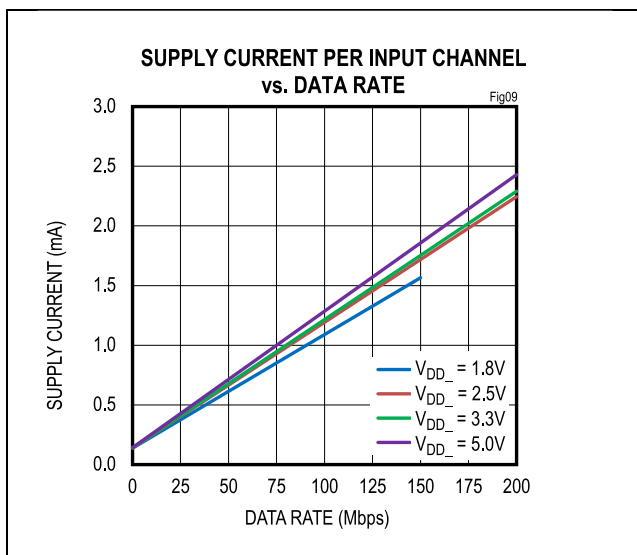
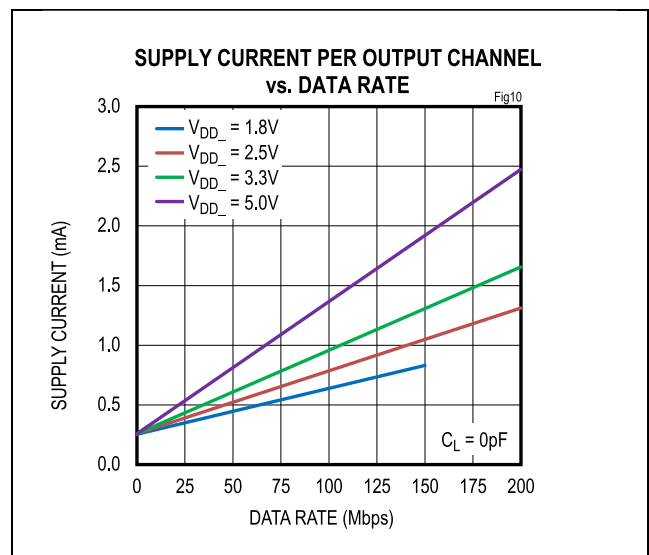

Figure 9. Supply Current Per Input Channel (Calculated)
Figure 10. Supply Current Per Output Channel (Calculated)
The required current for a given supply ( $V_{DDA}$  or  $V_{DDB}$ ) can be estimated by summing the current required for each channel. The supply current for a channel depends on whether the channel is an input or an output, the channel's data rate, and the capacitive or resistive load if it is an output. The typical current for an input or output at any data rate can be estimated from the graphs in Figure 9 and Figure 10. Note that the data in Figure 9 and Figure 10 are extrapolated from the supply current measurements in a typical operating condition.
The total current for a single channel is the sum of the no load current (shown in Figure 9 and Figure 10) which is a function of voltage and data rate, and the load current, which depends on the type of load. Current into a capacitive load is a function of the load capacitance, the switching frequency, and the supply voltage.
- Channel 1 is an input channel operating at 2.5V and 20Mbps, consuming 0.35mA, estimated from Figure 9.
- Channel 2 is an input channel operating at 2.5V and 100Mbps, consuming 1.19mA, estimated from Figure 9.
- Channels 3 and 4 are input channels operating at 2.5V with DC signal, consuming 0.14mA, estimated from Figure 9.
- Channel 5 is an output channel operating at 2.5V and 50Mbps, consuming 0.52mA, estimated from Figure 10.
- Channel 6 is an output channel operating at 2.5V and 200Mbps, consuming 1.31mA, estimated from Figure 10.
- Channel 1 is an output channel operating at 3.3V and 20Mbps, consuming 0.40mA, estimated from Figure 10.
- Channel 2 is an output channel operating at 3.3V and 100Mbps, consuming 0.96mA, estimated from Figure 10.
- Channels 3 and 4 are output channels operating at 3.3V with DC signal, consuming 0.26mA, estimated from Figure 10.
- Channel 5 is an input channel operating at 3.3V and 50Mbps, consuming 0.68mA, estimated from Figure 9.
- Channel 6 is an input channel operating at 3.3V and 200Mbps, consuming 2.29mA, estimated from Figure 9.